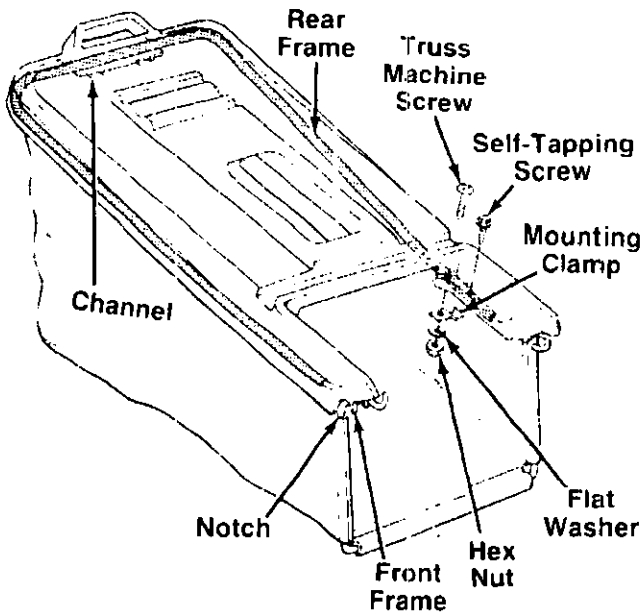

FIGURE 12.
4. Attach the hardtop cover to the grass catcher as follows. See figure 12.
- d. Attach cover to frame using self-tapping screws as shown in figure 12.